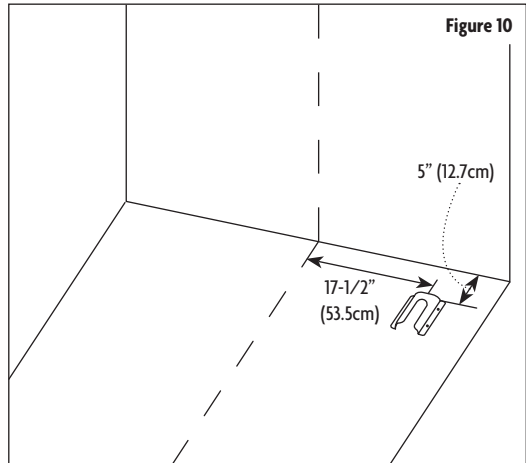

Figure 10
2. Determine and mark the centerline of the opening. (Refer to Figure 10.)
3. Measure 17 1/2" (53.5cm) out from the centerline and 5" (12.7cm) out from the back wall. (Refer to Figure 10.)